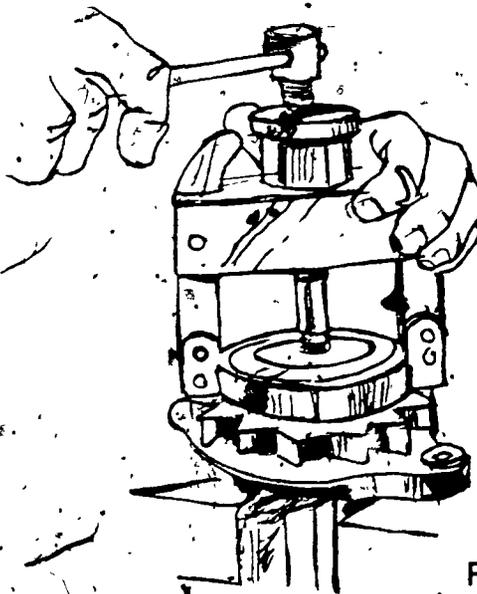

FIGURE 5
7. Remove the pulley from the armature using a pulley puller as required (Figure 5)